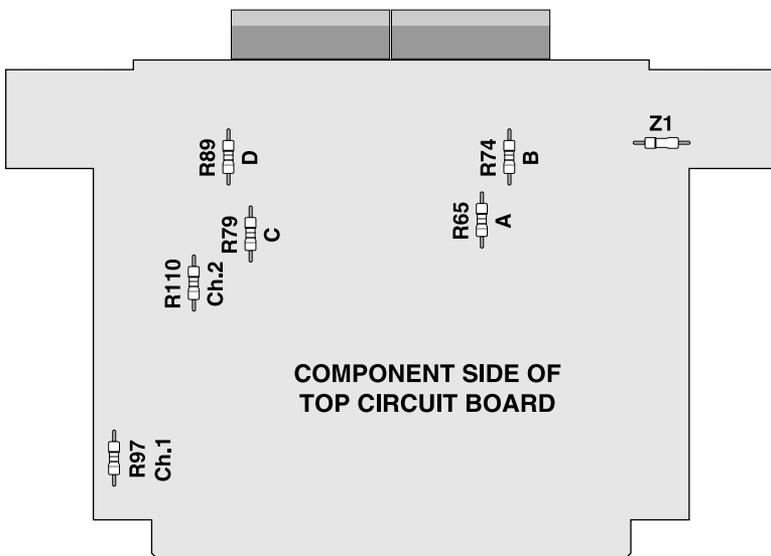

Fig. A.1 Scaling Resistors and Jumpers
Pots other than 10 K ohm will work best if you change the scaling resistors to match the pot value. For example, use a 20 K resistor for a 20 K pot. Do not exceed 50 K. The scaling resistor locations are shown in Figure A.1. Resistor R65 is used for Input A, R74 for Input B, R79 for Input C, and R89 for Input D.
2. Remove the appropriate scaling resistors from all but the master input. (Figure A.1.)
It is possible to use the audio bus inputs and outputs as a processor loop for a compressor, limiter or equalizer. To do this, remove resistor R97 for Channel 1 and R110 for Channel 2. They are located on the top circuit board and are shown in Figures A.1 and 3.19. Section A.1 contains brief instructions for gaining access to the component side of the top circuit board.